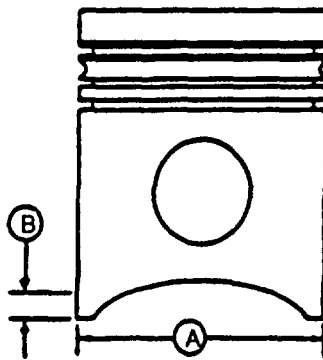

FIGURE 3-133. Measuring Piston Skirt
- t. Measure piston skirt (A, FIGURE 3-133) 90 degrees to piston pin bore and 0.74 inch (19 mm) from bottom of piston (B). Record measurement. OD should be 4.188 to 4.189 inches (106.38 to 106.40 mm).